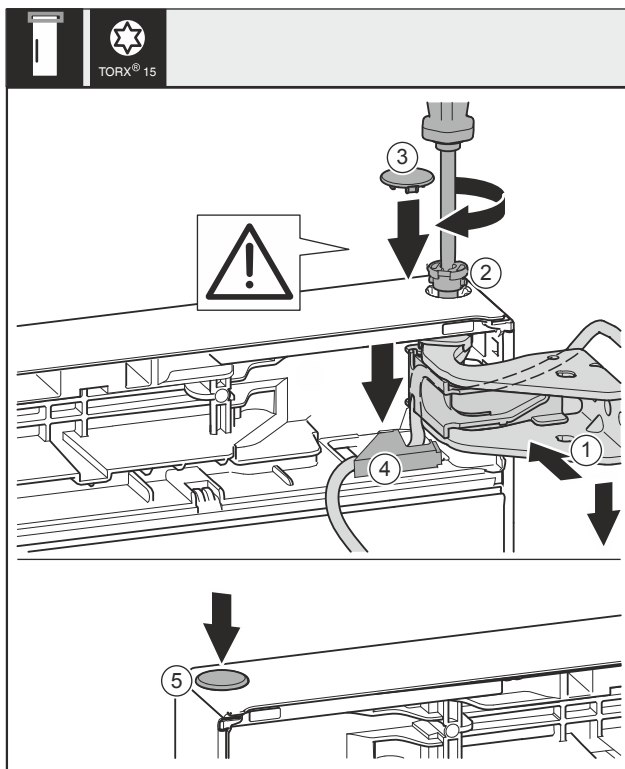

Fig. 45
- Align the top door with the opening in the swap bearing block Fig. 45 (1).
- Insert the bolt Fig. 45 (2) and use screwdriver to tighten it.
- Fit the safety cover to secure the door: Insert the safety cover Fig. 45 (3) and check whether the door is resting on it. Otherwise, insert the bolt fully.
- Insert the cover Fig. 45 (4) and push down until it engages.
- Insert the plug Fig. 45 (5).